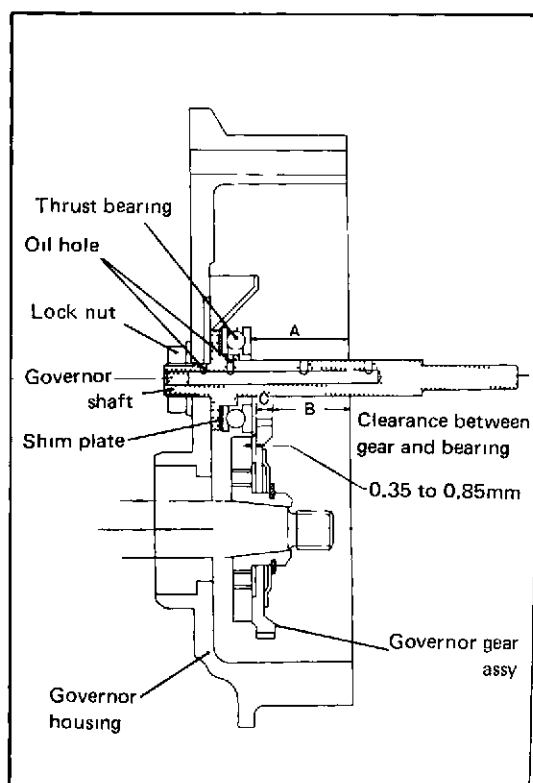

Fig. 3-170 Governor Shaft Installation
- a. As illustrated in Fig. 3-170, the oil hole in the governor shaft must always face upward upon assembly.
- c. To maintain the clearance between the thrust bearing and gear of 0.35 to 0.85 mm (0.0137 to 0.0336") as per Fig. 3-170, adjust by increasing the shim plates.
To measure this clearance, temporarily install the thrust bearing and governor gear assy as per Fig. 3-170, and measure the measurement of A and B from the end surface of the governor housing. It is satisfactory if $A - B = 5.85 - 6.35$ mm (0.23 - 0.25").